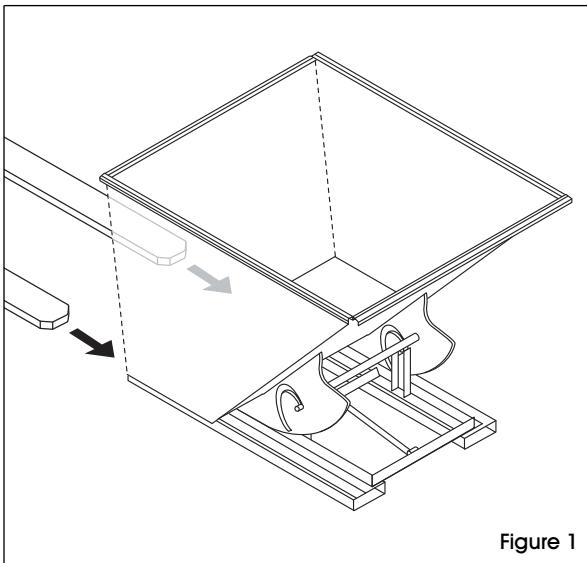

Figure 1
1. Drive lift truck forward until hopper's fork pockets contact vertical legs of lift truck forks. (See Figure 1)